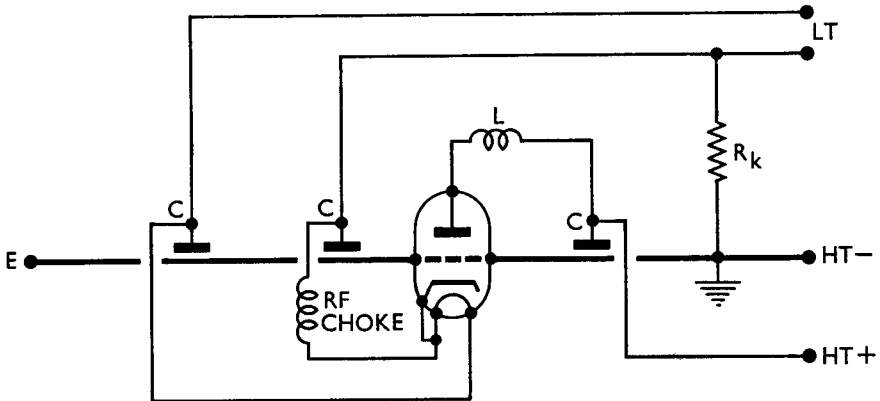

Fig. 2. R.F. oscillator using lumped circuit.
R.F. oscillator using lumped circuit (Fig. 2).